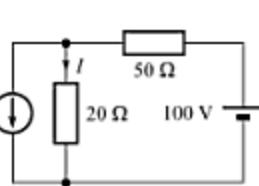

Fig. 4.39
- Find the current through  $20\text{-}\Omega$  resistor in the circuit shown in Fig. 4.39, using superposition theorem.